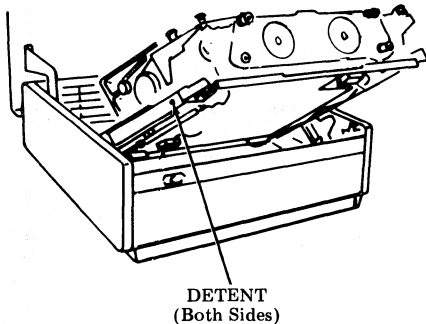

Fig. 20—Printer Tracks
6.02 Slide printer into track. Make sure ac and SSI cables are not pinched. Make sure detents snap into place (Fig. 20).